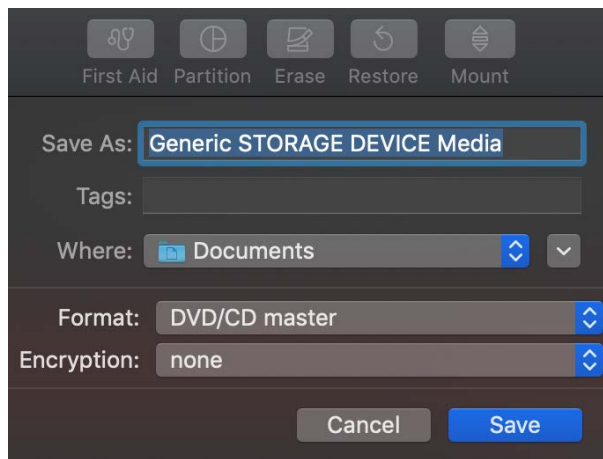

Figure 5.12 – Save dialog
7. Disk Utility will show a dialog (*Figure 5.12*). Set the file name and location, and **Format to DVD/CD master**: